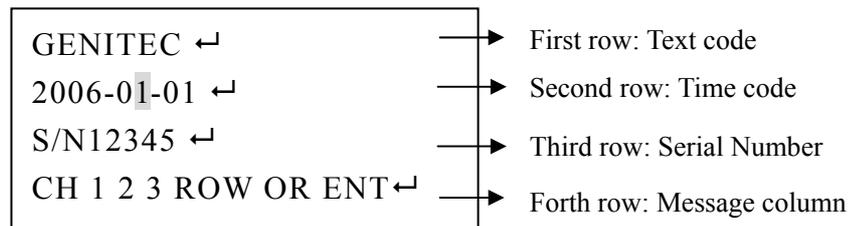

Figure 24
3. Please press the button  for moving to your modification position when CAUSER blinks on the second row. Please refer to figure 24 :